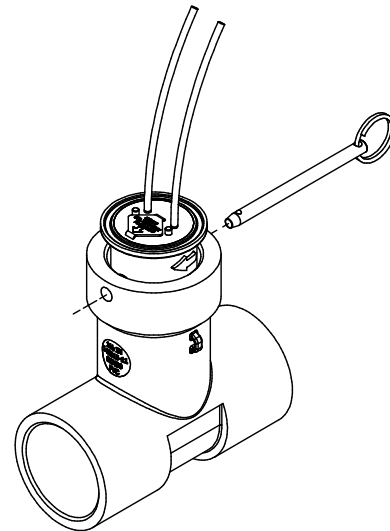

Figure 8
5. Replace the quick release pin (see Figure 8).